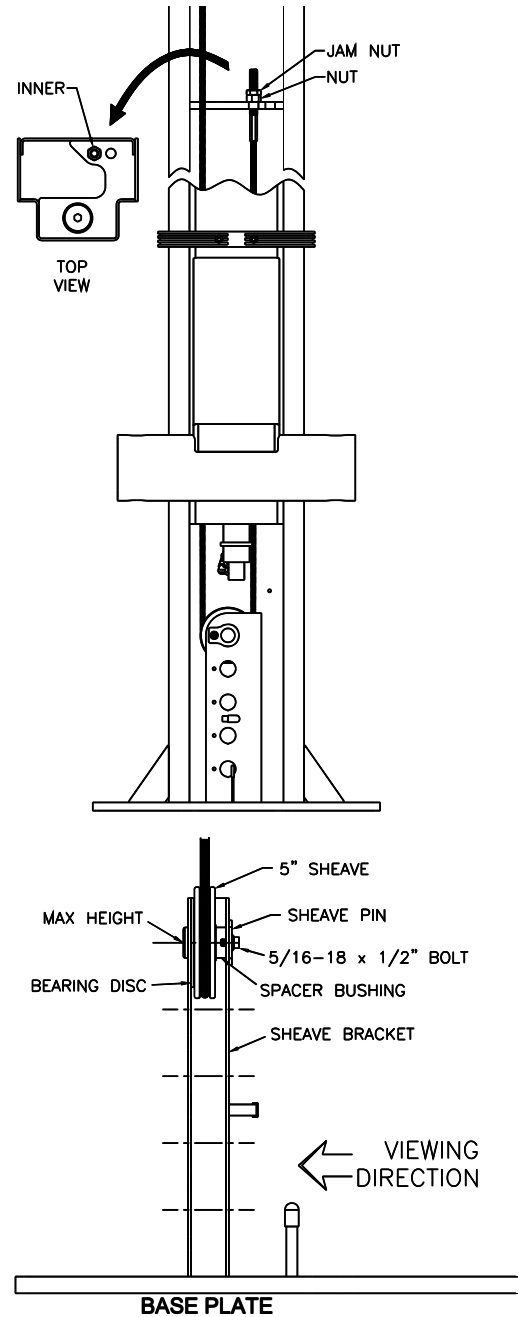

Fig. 3 – Cable Routing
- Manually push carriages up enough to unhook the cylinder hose from the base plate tabs. Proceed with pushing the cylinder and carriage up enough to access all five sheave locations on the sheave bracket, see **Fig 3**.
- 7) The sheave must be removed and reassembled to route the synchronizer cable. Remove the bolt, sheave pin, bearing disc, sheave, and spacer bushing, **Fig. 3**.
- 8) Route a cable through a carriage and out the bottom. Route, it back up and into the inside hole at the top of the carriage, see **Fig 3**. **Ensure cables do not twist or wrap around hoses during routing.**
- 9) Install a nut and jam nut at the cable end, **Fig 3**.
- 10) Reinstall the sheave. Place the bearing disc inside the bracket centered over the bracket hole based on the chosen install height. Install the cable on the sheave and slide into place. Stack the spacer bushing onto the sheave assembly. Still holding the sheave assembly, slide the pin into place and secure it with the bolt, see **Fig 3**.